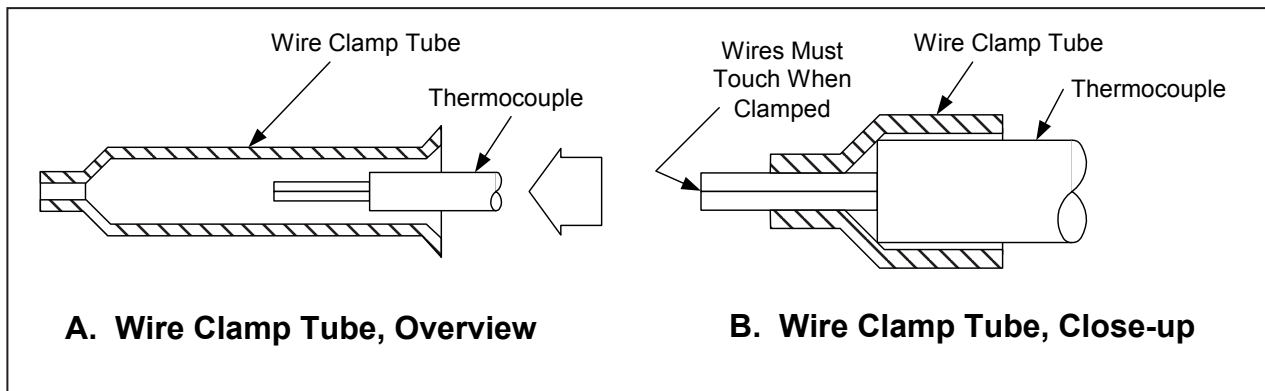

Figure 3-1. Thermocouple wire insertion procedure.
- Grasp the Handpiece in either hand. Slide the black Loading Button back toward the square part of the Handpiece. Using the opposite hand, insert the stripped end of the thermocouple wire into the large open end on the back of the Upper Wire Clamp Jaw. Feed the wire into the large open end on the back of the Upper Wire Clamp Jaw. Feed the wire into the tube until it stops. If the insulated wire slides through the tube without stopping, clamp the BARE wire so that it protrudes a minimum of .135 inches (3.43 mm) from the end of the Wire Clamp Jaw. See figure 3-1.